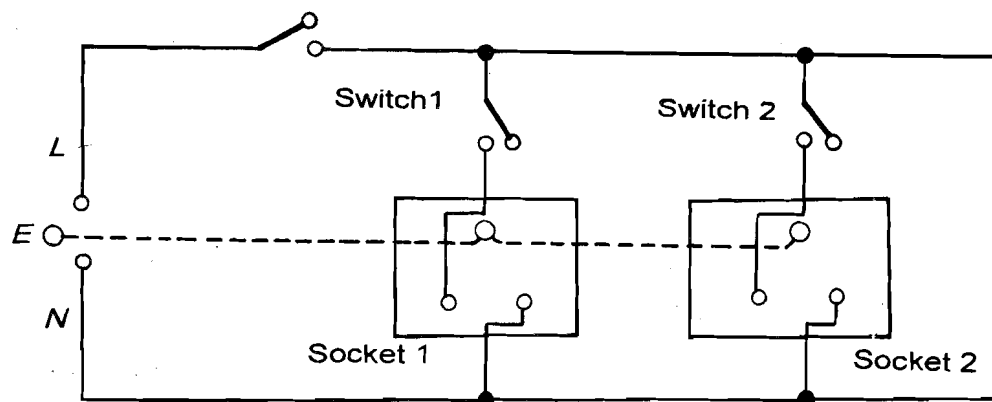
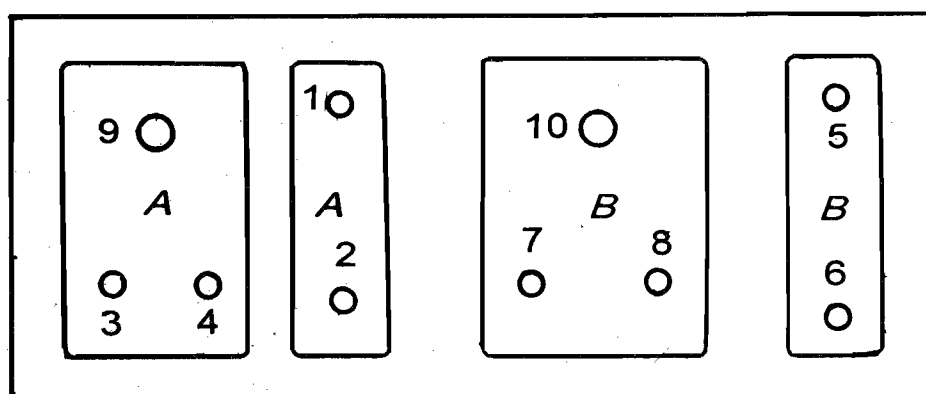

Fig.7.5: Circuit diagram of an extension board
Fig.7.7: Labelled circuit diagram of the extension board
Now suppose we wish to fabricate an extension board for plugging two instruments such as an oscilloscope and a signal generator. For such an extension board, the circuit diagram is shown in Fig.7.5. You will note that such an extension board has 2 two-in-one sockets with independent switches.
2. Keep the labelled circuit diagram (Fig.7.7) of the extension board before you. This diagram is the labelled version of the circuit diagram of the extension board (Fig.7.5).
Note that all the terminals of sockets and switches in Fig.7.7 are numbered. You just have to join these numbered terminals as per the instructions given below using the single core wire of gauge 22. You will have to cut this wire into pieces of appropriate length: